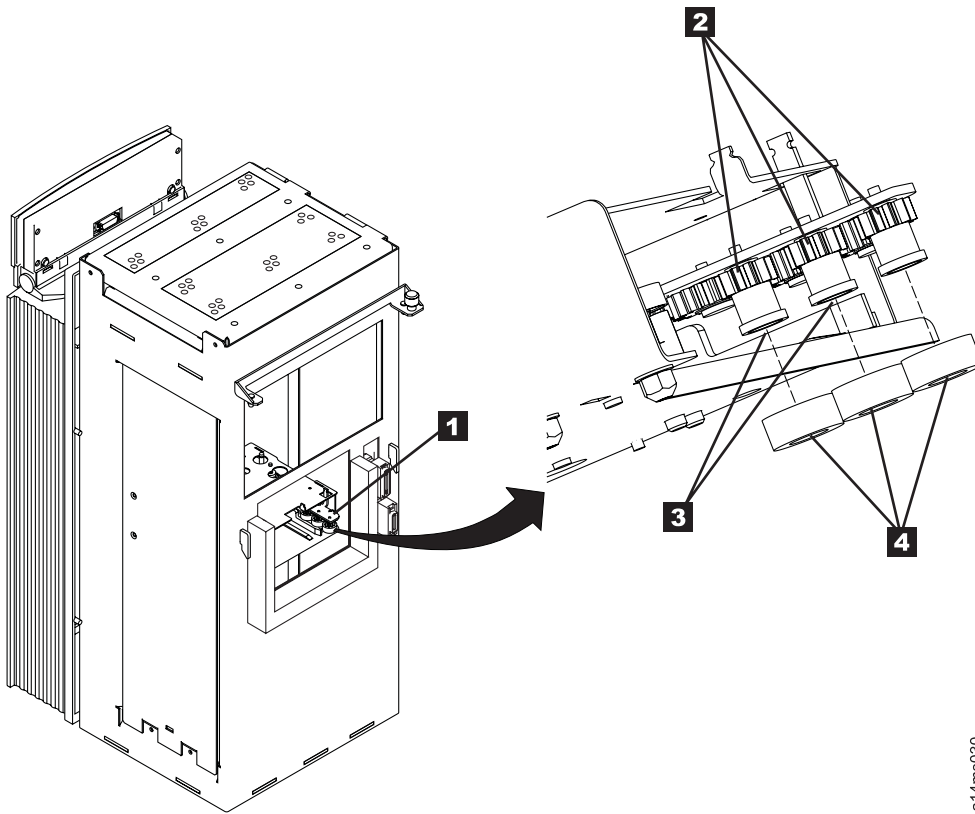

Figure 10-36. Transport Pinch Roller Assembly
4. See Figure 10-36. Rotate the elevator leadscrew to position the elevator assembly **1** about half way between the top and bottom, as shown.
- a. See Figure 10-36. Use a spring hook or small screwdriver to remove the 3 rollers **4** from the gears **2**.